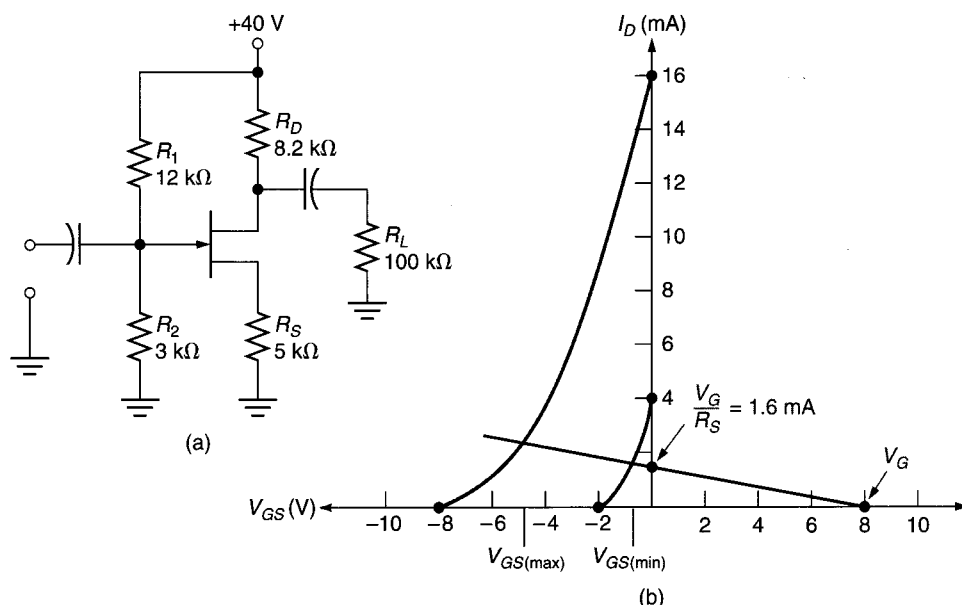
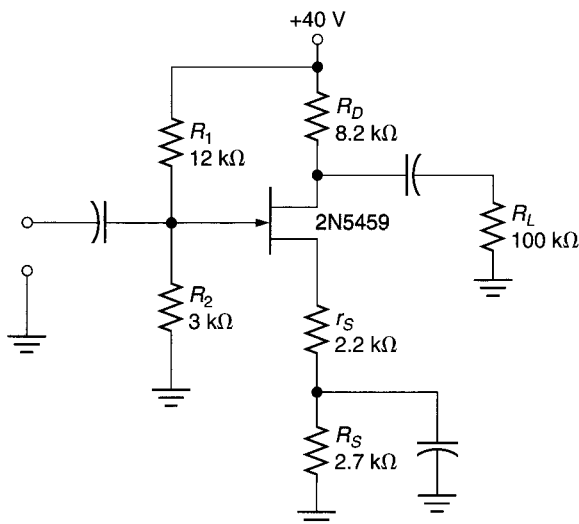

FIGURE 12.36
FIGURE 12.38
Determine the maximum and minimum values of  $A_v$  for the amplifier shown in Figure 12.36. Assume that the 2N5459 has values of  $g_{m0} = 6000 \mu\text{S}$  at  $V_{GS(\text{off})} = -8 \text{ V}$  and  $g_{m0} = 2000 \mu\text{S}$  at  $V_{GS(\text{off})} = -2 \text{ V}$ .
Determine the maximum and minimum gain values for the circuit shown in Figure 12.38.
**Solution:** Basically, the circuit shown in Figure 12.38 is the same as the one shown in Figure 12.36. The difference of  $100\ \Omega$  in the source circuit is not enough to change significantly the values obtained in Example 12.12, so we will use those values here.
Using the values from Figure 12.38 and Example 12.12, the maximum value of  $A_v$  is found as
**Solution:** When the BJT amplifier is the load, the value of  $r_D$  for Figure 12.36 is found as
When the JFET amplifier is the load, the value of  $r_D$  for Figure 12.36 is found as
Thus, the gain of the circuit in Figure 12.36 is higher when driving the JFET amplifier than it is when driving the BJT amplifier.